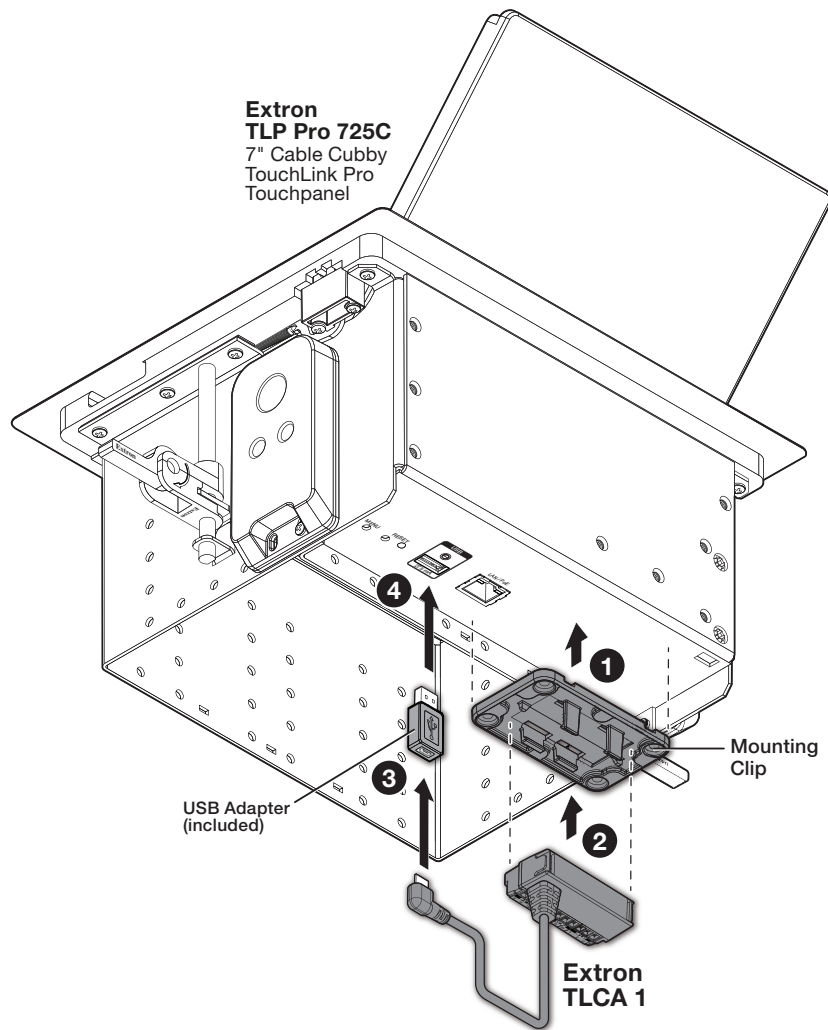

Figure 16. Mounting under a Cable Cubby
Attach the TLCA 1 to the mounting clip (see figure 16, ❶, and Attaching the TLCA 1 to the Mounting Clip on page 4).
Mount the TLCA 1 and mounting clip against the bottom exterior of the Cable Cubby (see figure 16, ❷). The mounting clip is magnetic, and will hold secure to the metal frame.
NOTE: In figure 16, the mounting clip (❷) is optimally positioned for connecting the TLCA 1 to the Cable Cubby. If the mounting position is flipped 180°, the TLCA 1 USB micro-B cable may not reach the Cable Cubby USB output (❹).